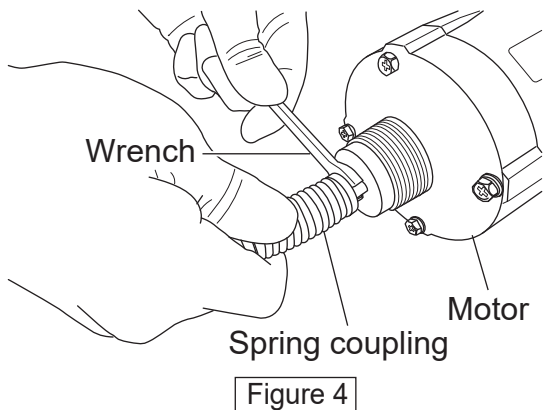

Figure 4
2. Remove the spring coupling fixed to the motor with the wrench. (Figure 4)
1. Assemble the spring coupling to the motor. (Figure 4)